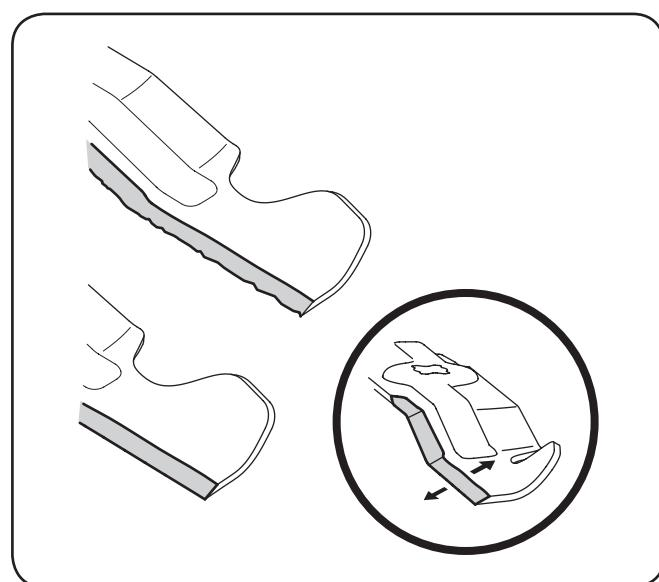

Figure 7-8
4. To properly sharpen the cutting blades, remove equal amounts of metal from both ends of the blades along the cutting edges, parallel to the trailing edge, at a 25° to 30° angle. Always grind each cutting blade edge equally to maintain proper blade balance. See Fig. 7-8.